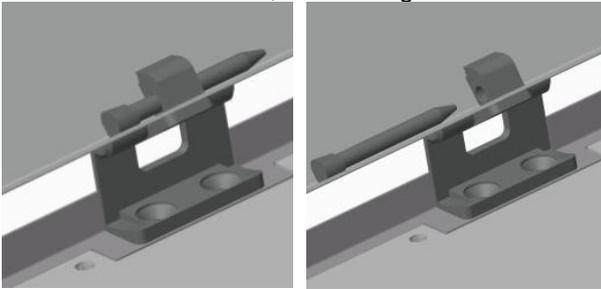

Fig. 1
- To remove the door, refer to Fig. 1.